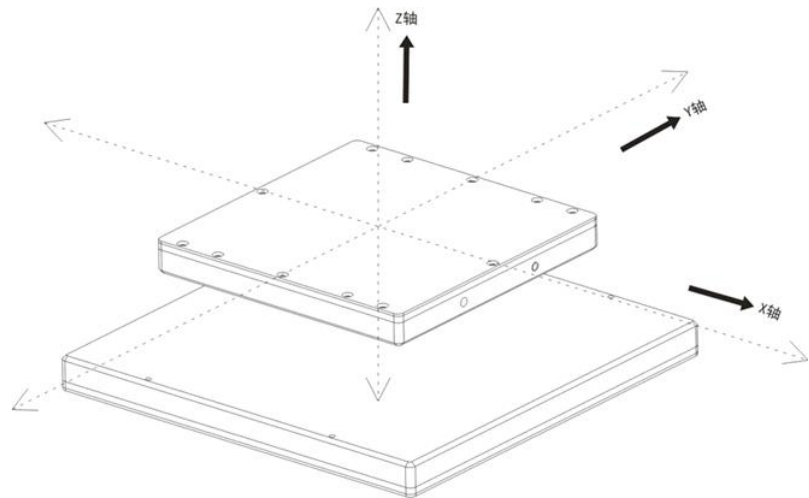

Figure 10 Coil offset indication
**Note:** The coil offset indication is shown in Figure 10. Assuming it is bottom - mounted, the offset between coils in the vertical (z-axis) direction is 10-30mm, the offset in the single direction (X or Y) is  $\pm 20\text{mm}$ , and the offset in both directions (X and Y simultaneously) is  $\pm 15\text{mm}$ .